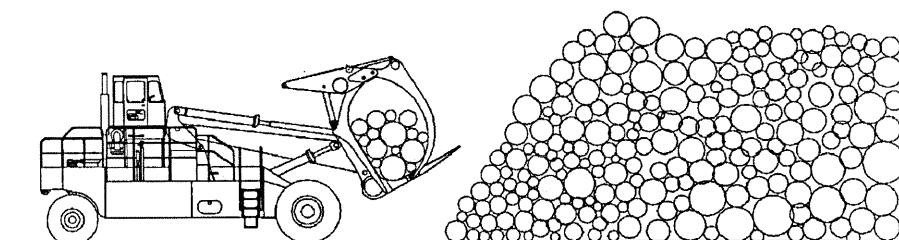

Fig 4-16
4. Tilt the carriage back fully and tightly clamp the load. Back away and lower the load. See Fig. 4-16